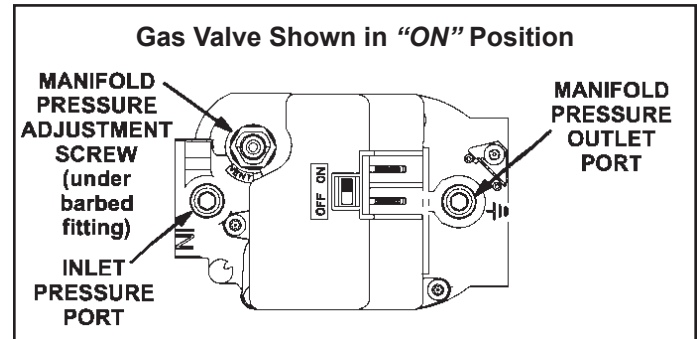

Figure 30.
See Figure 30
6. Move switch on gas valve to OFF. Do not force. See Figure 30.
8. Move switch on gas valve to ON. Do not force. See Figure 30.